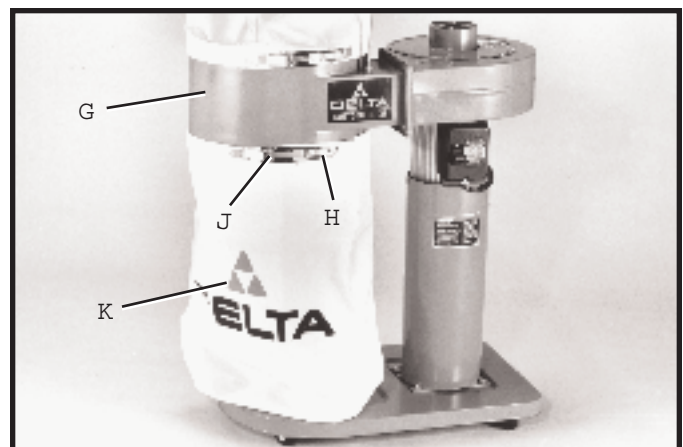

Fig. 13
4. Insert remaining locking band (H) Fig. 13, through hem of dust collection bag (K). Position open end of bag over the lip of drum (G) and fasten with locking clamp (J). NOTE: Make certain locking band (H) is positioned in the channel of drum before locking clamp (J).